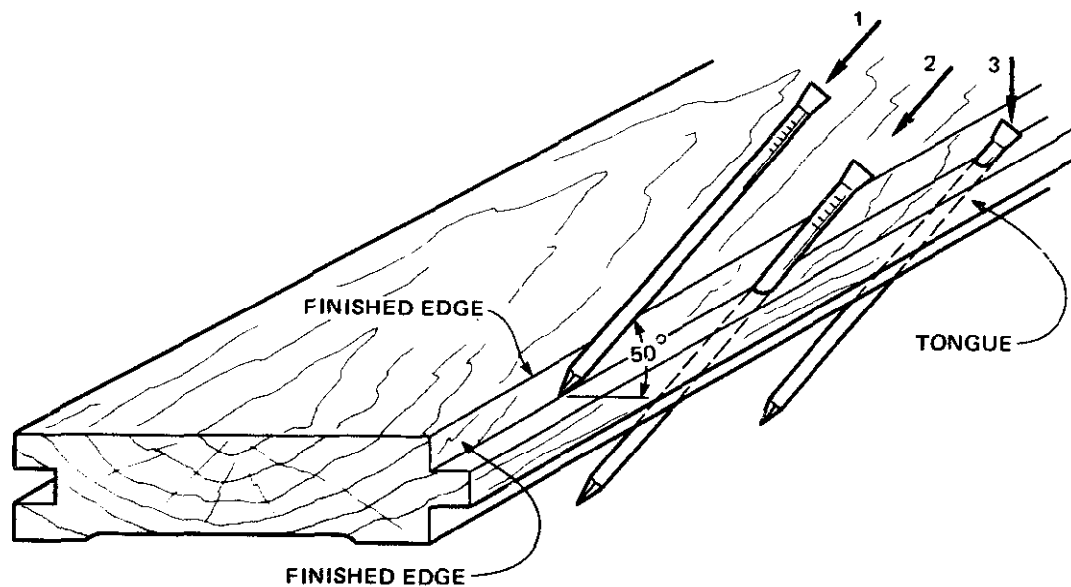

Fig. 11-30 Correct method of toenailing flooring.
1. Start the nail at about a 50-degree angle in the top of the tongue joint. See figure 11-30.
2. Drive the nail until the nail head approaches the surface of the flooring using blows in the direction indicated by arrows 1 and 2 in figure 11-30. Avoid striking the finished edge of the flooring.